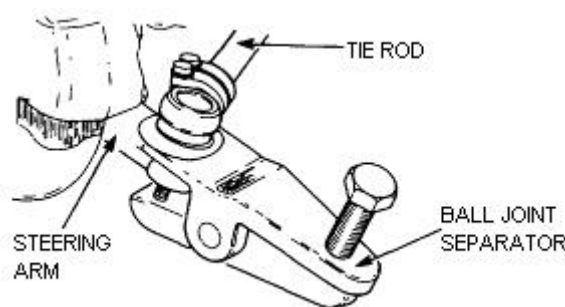

Figure 135 Steering Linkage Removal
- Using the ball joint separator (Table 3, Serial 13), disconnect the tie rod ends from the steering arms (Figure 135) and remove the tie rod from the vehicle.